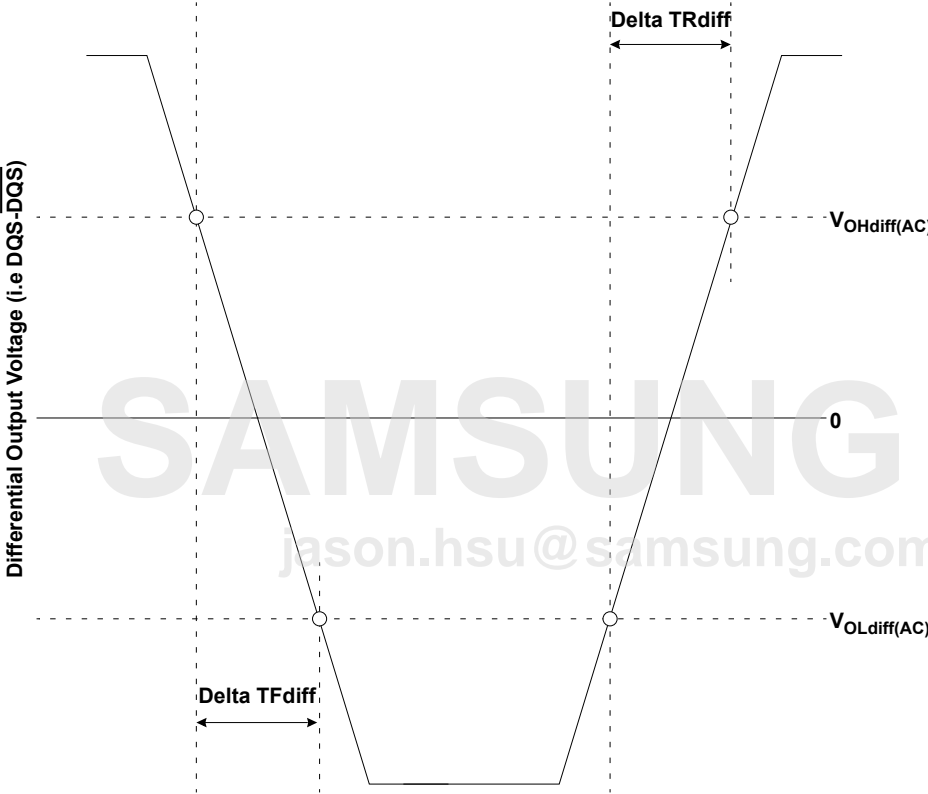

Figure 9. Differential Output Slew Rate Definition
With the reference load for timing measurements, output slew rate for falling and rising edges is defined and measured between VOLdiff(AC) and VOHdiff(AC) for differential signals as shown in Table 25 and Figure 9.